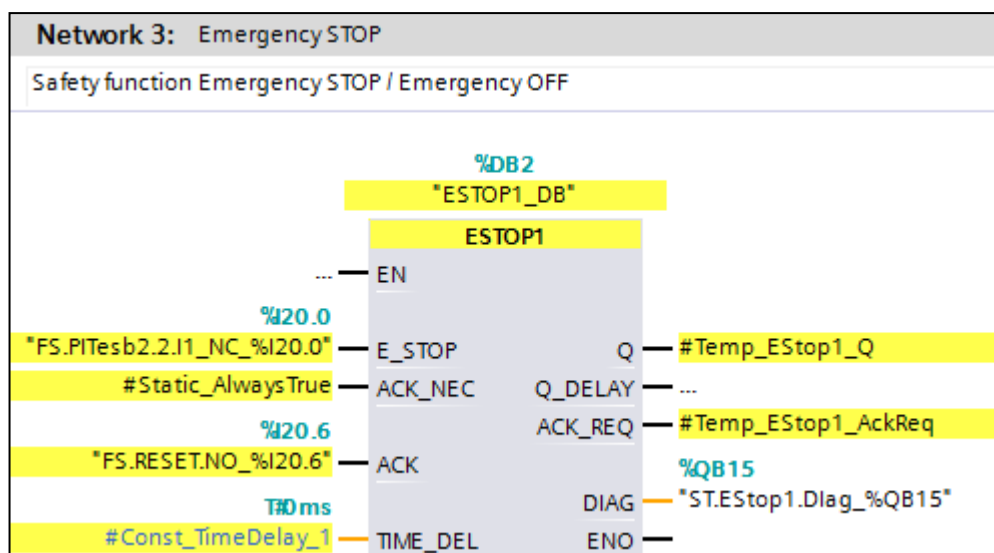
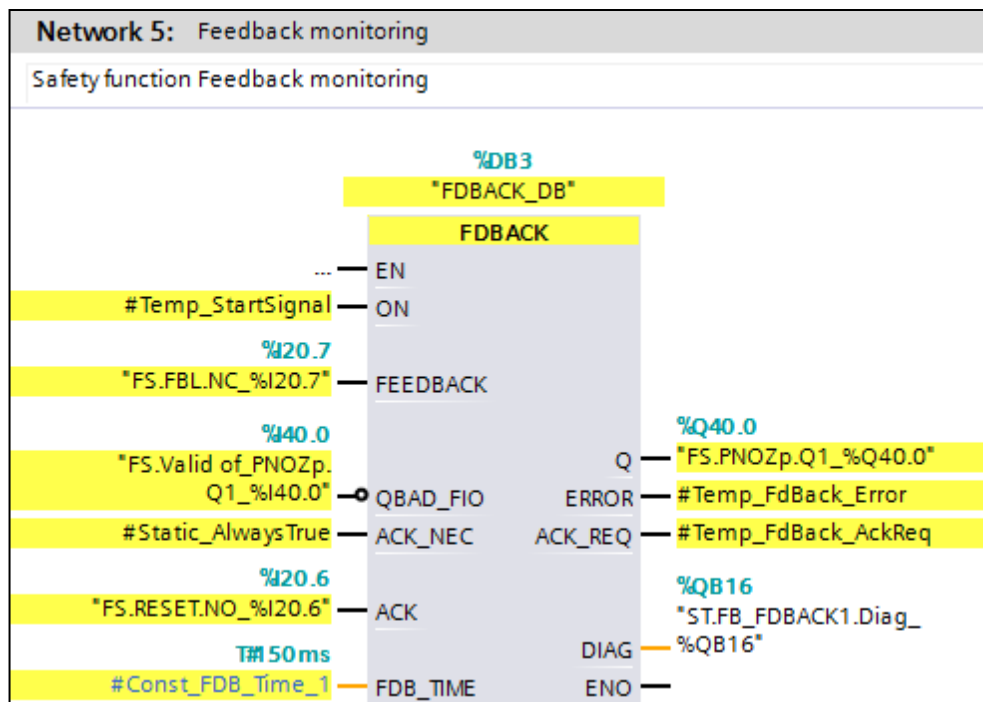

Figure 91: TIA – F-program » Emergency STOP shutdown 'ESTOP1' (Network 3)
Figure 93: TIA – F-program » Feedback monitoring 'FDBACK' (Network 5)
- The Enable 'Q' (FB output with internal temporary local variable '#Temp_EStop1_Q' / Network 3 » Figure 91 [book 58] from the emergency stop FB 'ESTOP1' is reset.
('FS.PNOZp.Q1_%Q40.0' / Network 5 » Figure 93 [book 59]).
- The enable 'Q' ('#Temp_EStop1_Q' / Network 3 » Figure 91 [58]) from the Emergency stop block 'ESTOP1' is reset and the actuator is switched off ('FS.PNOZp.Q1_%Q40.0' / Network 5 » Figure 93 [59]).